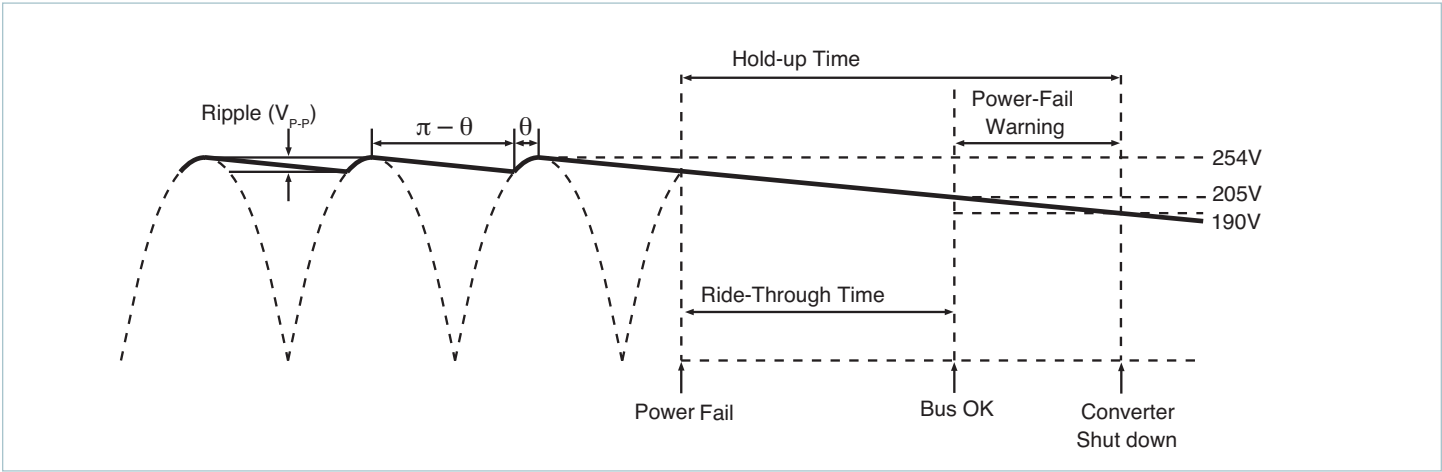

Figure 15 — Hold-up time
Hold-up capacitor values should be determined according to output bus voltage ripple, power fail hold-up time, and ride-through time (see Figure 15). Many applications require the power supply to maintain output regulation during a momentary power failure of specified duration, i.e., the converters must hold-up or ride through such an event while maintaining undisturbed output voltage regulation. Similarly, many of these same systems require notification of an impending power failure in order to allow time to perform an orderly shut down.
The power fail warning time (Δt) is defined as the interval between BOK and converter shut down (EN) as illustrated in Figure 15. The Bus-OK and Enable thresholds are 205V and 190V, respectively. A simplified relationship between power fail warning time, operating power, and bus capacitance is obtained by inserting these constants in Equation 3:
Equation 3 is again used to determine the required capacitance. In this case, V1 and V2 are the instantaneous values of bus voltage at the peaks and valleys (see Figure 15) of the ripple, respectively. The capacitors must hold up the bus voltage for the time interval (Δt) between peaks of the rectified line as given by: